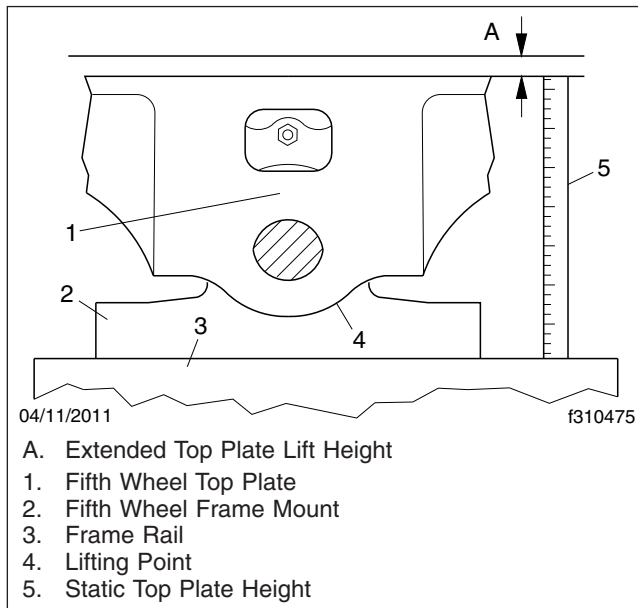

Fig. 7, Measuring Fifth Wheel Top Plate Lift
7. Level the fifth wheel plate to a horizontal position. Measure the height from a stationary mounting point (see **Fig. 7**, item 3), such as the frame rail to the top of the fifth wheel plate (item